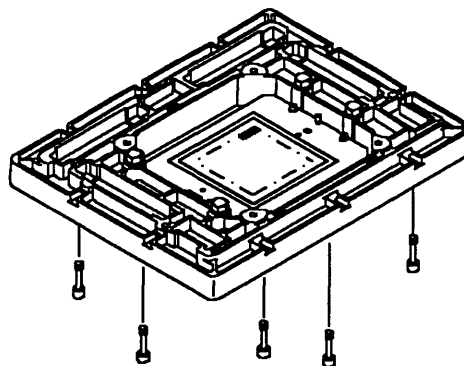

Figure 5-169. Board Screws
3. Referring to Figure 5-169 on page 5-169, use the torque tool and, remove the 10 mounting screws.